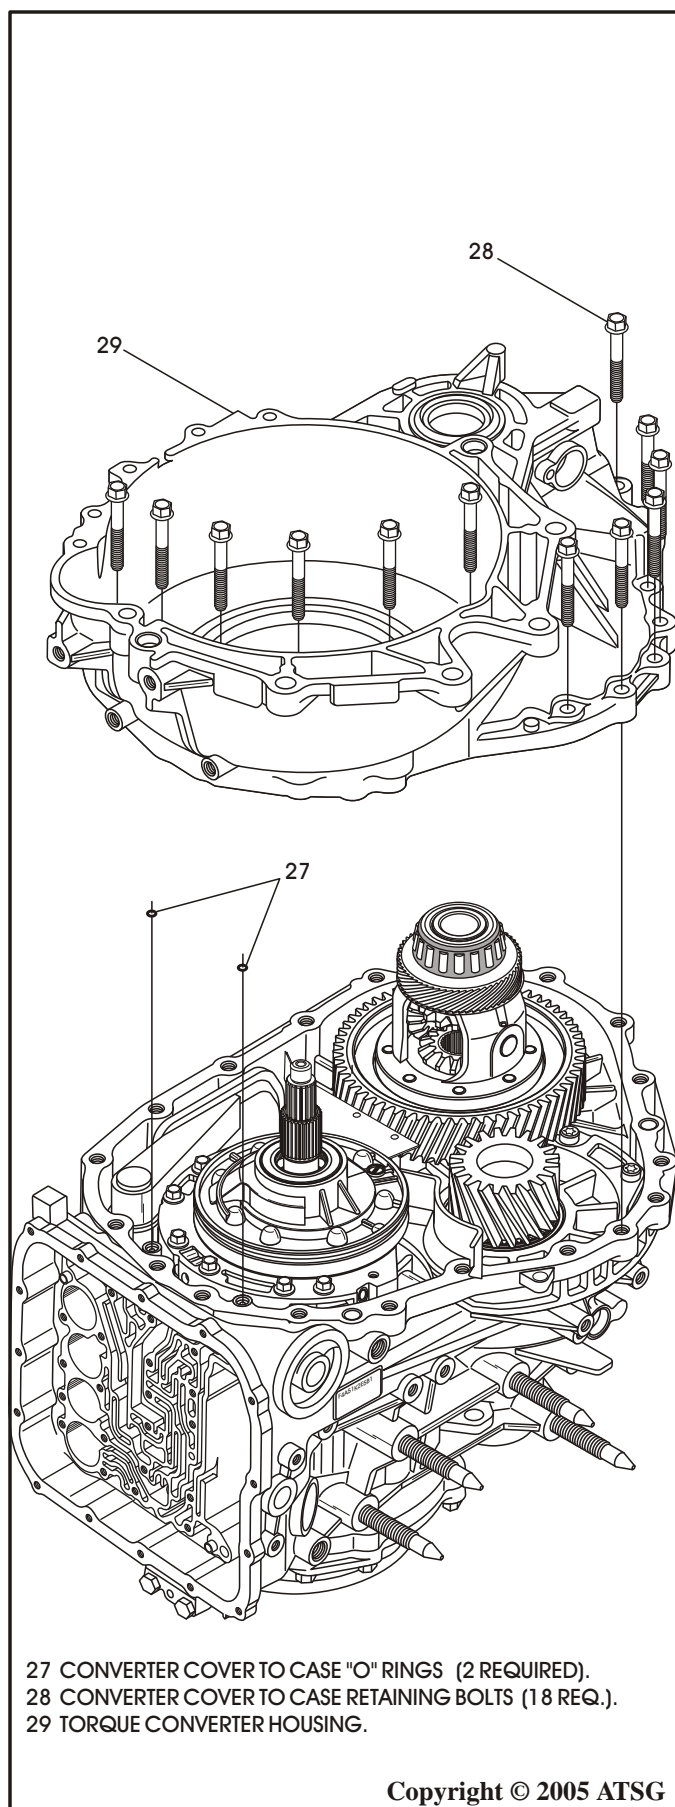

Figure 38
20. Rotate the case on the work bench so that the converter housing is facing up, as shown in Figure 38.
21. Remove the 18 torque converter housing bolts, as shown in Figure 38.
Note: Six of these bolts are inside of the converter housing, as shown in Figure 38.
22. Remove and discard the two small "O" rings between the converter housing and the case, as shown in Figure 38.